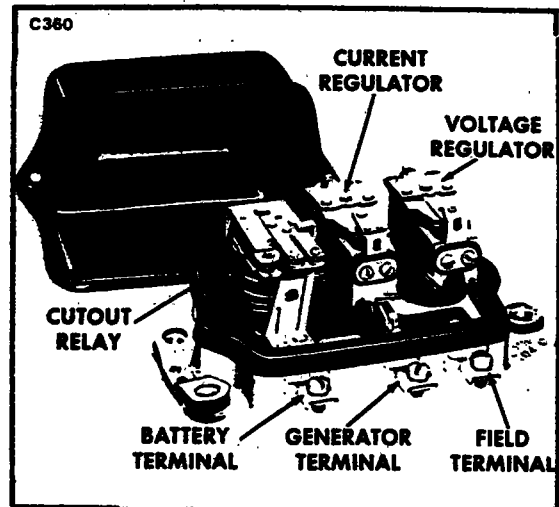

Figure 11-4. Current/Voltage Regulator
11-24. DESCRIPTION OF REGULATOR. The regulator shown in Figure 11-4 consists of a cutout relay, a voltage regulator and a current regulator unit. The cutout relay closes the generator to battery circuit when the generator voltage is sufficient to charge the battery, and it opens the circuit when the generator slows down or stops. The voltage regulator unit is a voltage-limiting device that prevents the system voltage from exceeding a specified maximum and thus protects the battery and other voltage-sensitive equipment. The current regulator unit is a current-limiting device that limits the generator output so as not to exceed its rated maximum.
a. The cutout relay (Refer to Figure 11-4.) has two windings, a series winding of a few turns of heavy wire and a shunt winding of many turns of fine wire (shown in dashed lines). The shunt winding is connected across the generator so that generator voltage is impressed upon it at all times. The series winding is connected in series with the charging circuit so that all generator output passes through it. The relay core and windings are assembled into a frame. A flat steel armature is attached to the frame by a flexible hinge so that it is centered just above the stationary contact points. When the generator is not operating, the armature contact points are held away from the stationary points by the tension of a flat spring riveted on the side of the armature.
a. The voltage regulator (Refer to Figure 11-4.) has two windings assembled on a single core, a shunt winding consisting of many turns of fine wire (shown in dashed lines) which is shunted across the generator, and a series winding of a few turns of relatively heavy wire which is connected in series with the generator field circuit when the regulator contact points are closed.
a. The current regulator (Refer to Figure 11-4.) has a series winding of a few turns of heavy wire which carries all generator output. The winding core is assembled into a frame. A flat steel armature is attached to the frame by a flexible hinge so that it is just above the core. The armature has a contact point which is just below a stationary contact point. When the current regulator is not operating, the tension of a spiral spring holds the armature away from the core so that the points are in contact. In this position the generator field circuit is completed to ground through the current regulator contact points in series with the voltage regulator contact points.